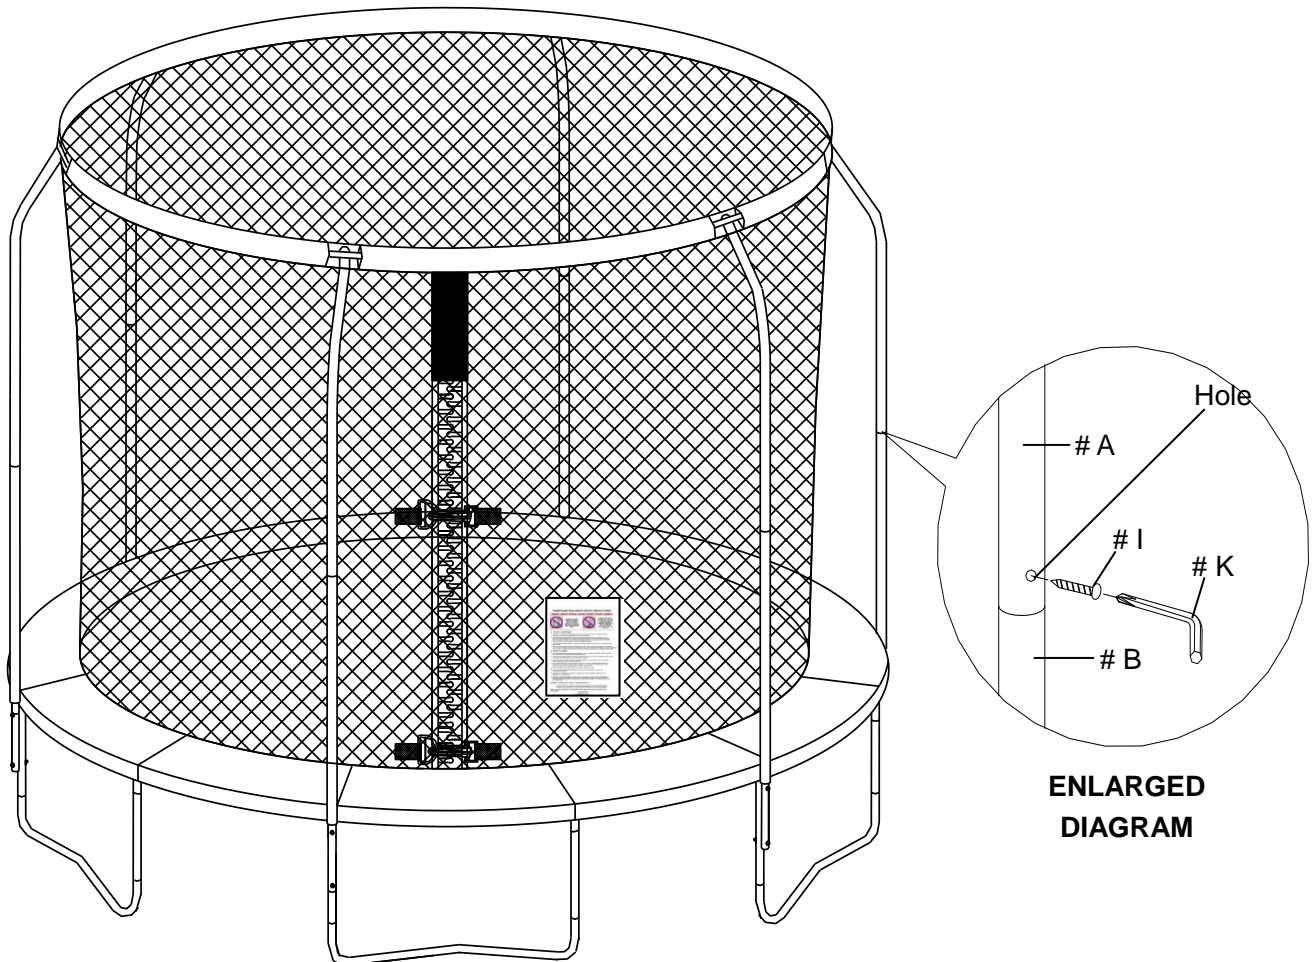

FIGURE 26
- I. Secure Upper Frame Tube with Foam (# A) to Lower Frame Tube with Foam (# B) by inserting Self-Locking Screw (# I) and tighten using Allen Wrench (# K) as shown in FIGURE 26.